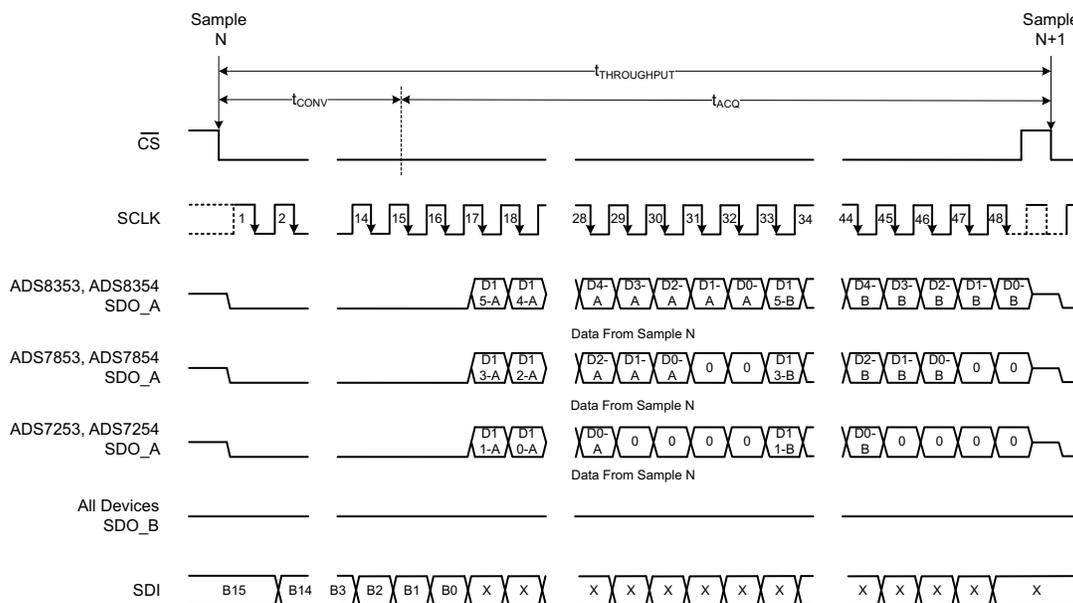

Figure 16. 32-CLK, Single-SDO Mode Timing Diagram
The 32-CLK, single-SDO mode provides the option of using only one SDO pin (SDO_A) to read conversion results from both ADCs (ADC_A and ADC_B). SDO_B remains in 3-state and can be treated as a no connect (NC) pin. Figure 16 shows a detailed timing diagram for this mode.